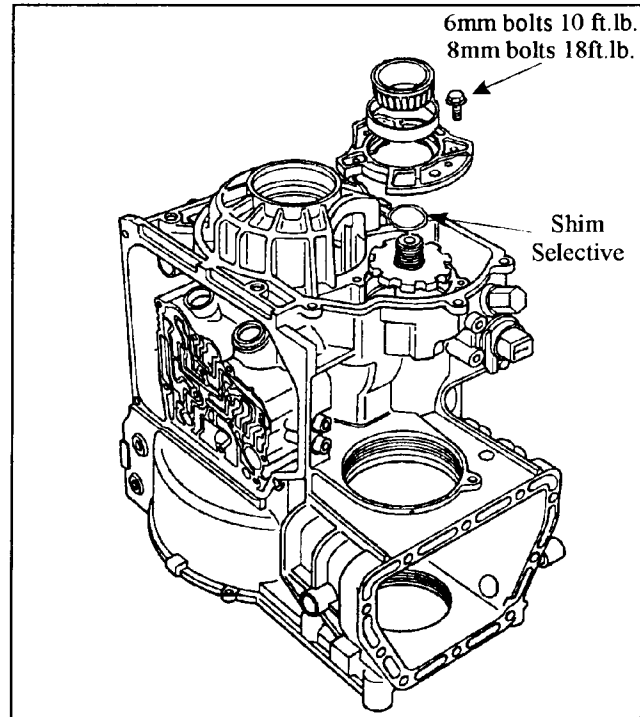

Figure 107
13. Install the bearing retainer with a new bearing. Install the and torque to 10ft.lb. for the 6mm bolts and 18ft.lb. for the 8mm bolts. bolt size may vary. Always check the size of the bolts in your bearing retainer (See Figure 107).